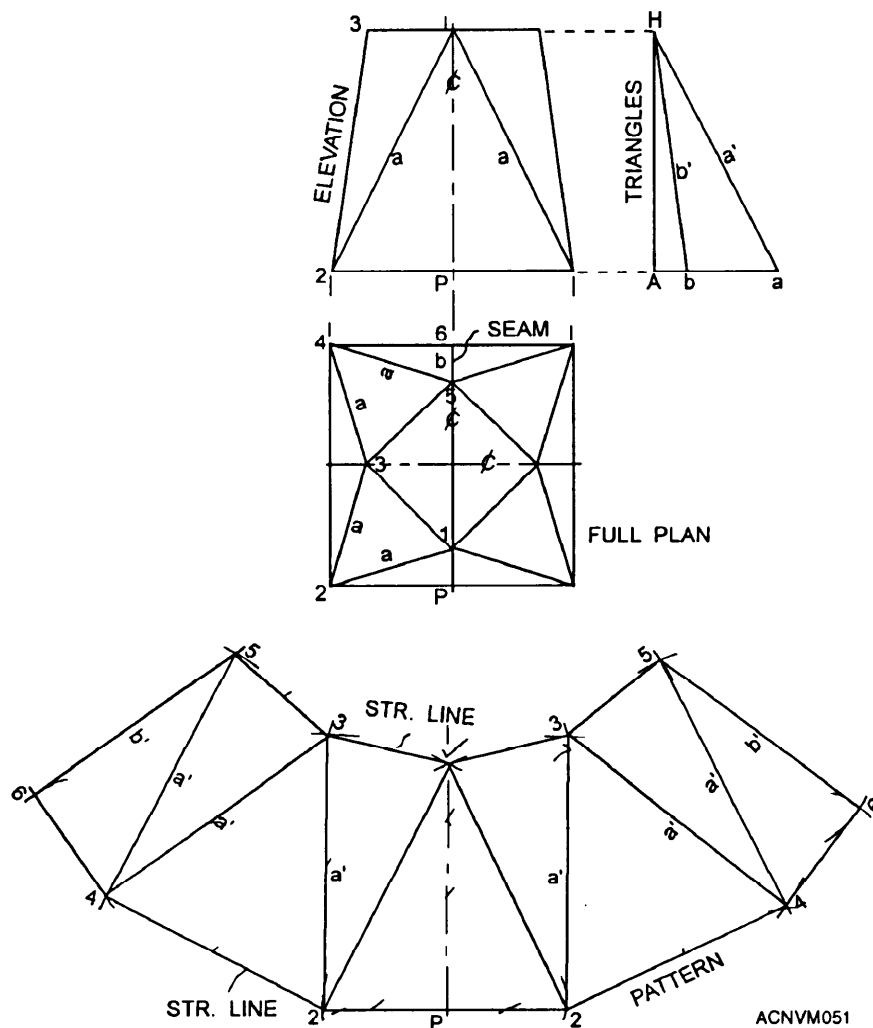

Figure 12-51.—Triangulation development of a twisted square.
The TWISTED SQUARE transition piece shown in figure 12-51 is quite simple to develop by triangulation.
1. Construct the elevation and plan views as shown in figure 12-51. The numbered lines indicate the elements that are shown in their true lengths. The lettered lines are those for which the true length must be found.